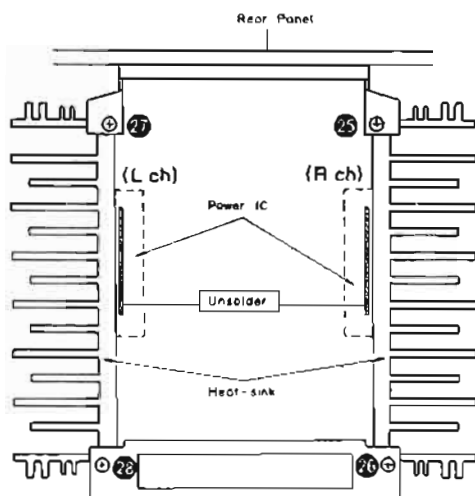

Fig. 3
2. Unsolder of power IC for left channel or right channel. (Fig. 3)
3. Remove the 2 setscrews (Fig. 3: ⑳ ~ ㉑ (left) or ㉒ and ㉓ (right)) of the chassis.